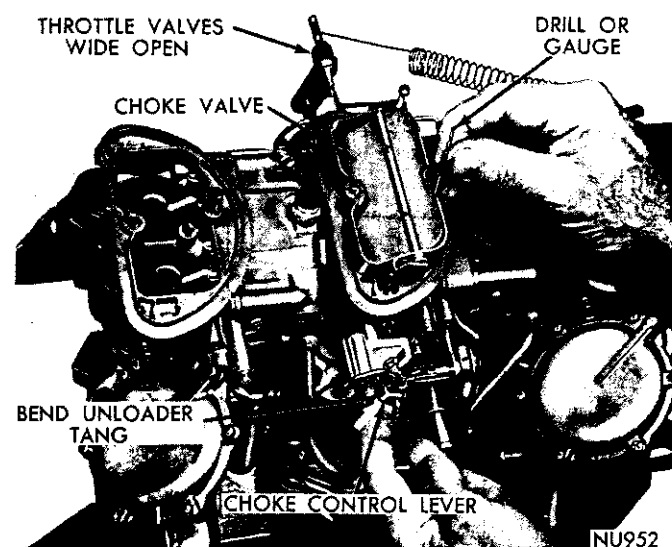

Fig. 26—Choke Unloader Adjustment (Wide Open Kick)
(1) Qualify the choke control lever, if necessary. (See Qualifying Choke Control Lever Paragraph).
(2) Hold the throttle valves in the wide open position. Insert the specified drill between the upper edge of the choke valve and the inner wall of the air horn (see specifications).
(3) With a finger lightly pressing against the choke control lever, a slight drag should be felt as the drill is being withdrawn. If an adjustment is necessary, bend the indicated tang until correct opening has been obtained (Fig. 26).